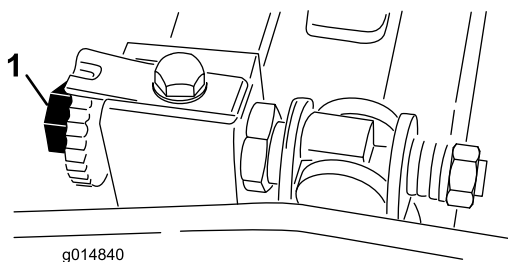

Figure 46
3. Rotate the reel so that a blade crosses the bedknife edge between the first and second bedknife screw heads on the right side of the cutting unit (Figure 46).
6. Turn the right bedbar adjusting screw until you feel light pressure (i.e. drag) on the shim by sliding it side-to-side (Figure 46). Remove the shim.